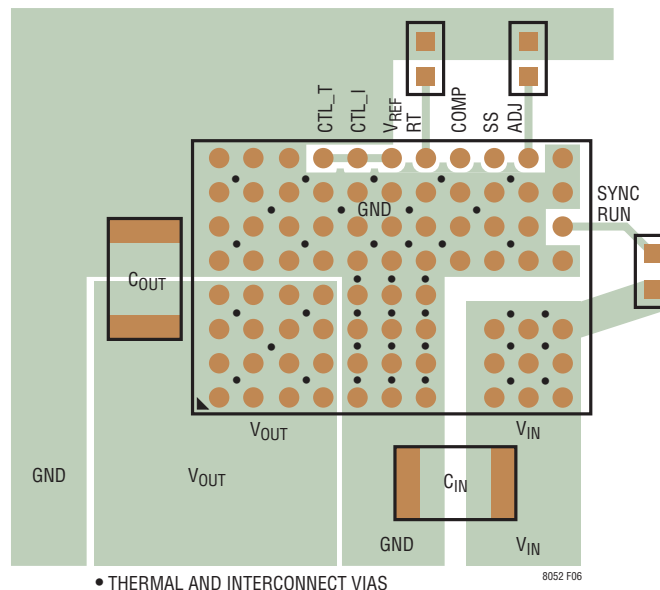

Figure 6. Layout Showing Suggested External Components, GND Plane and Thermal Vias.
Most of the headaches associated with PCB layout have been alleviated or even eliminated by the high level of integration of the LTM8052. The LTM8052 is nevertheless a switching power supply, and care must be taken to minimize EMI and ensure proper operation. Even with the high level of integration, you may fail to achieve specified operation with a haphazard or poor layout. See Figure 6 for a suggested layout. Ensure that the grounding and heat sinking are acceptable.
6. Use vias to connect the GND copper area to the board's internal ground planes. Liberally distribute these GND vias to provide both a good ground connection and thermal path to the internal planes of the printed circuit board. Pay attention to the location and density of the thermal vias in Figure 6. The LTM8052 can benefit from the heat sinking afforded by vias that connect to internal GND planes at these locations, due to their proximity to internal power handling components. The optimum number of thermal vias depends upon the printed circuit board design. For example, a board might use very small via holes. It should employ more thermal vias than a board that uses larger holes.